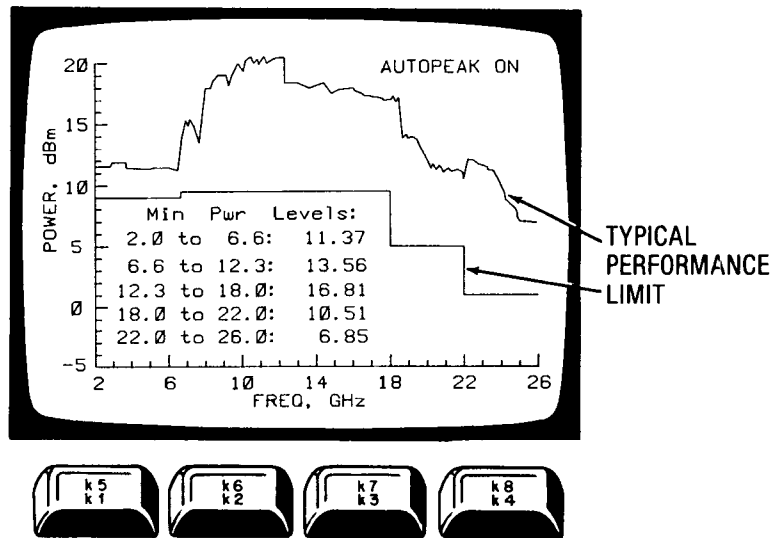

Figure 8-23. HP 8673B Power Plot
56. Compare the plot taken in step 55 with the corresponding plot in figure 8-23. There are three possible results:
- a. The plot taken in step 55 is essentially the same as the corresponding plot in figure 8-23. If this is the case, proceed with "ALC/AM Check".
- c. The power at one or more of the frequencies in the plot taken in step 55 is significantly lower than the power for the corresponding frequency in figure 8-23, but not below the Typical Performance limit line. This would not necessarily indicate an output power problem but could affect AM or ALC operation. Proceed with the AM/ALC check.